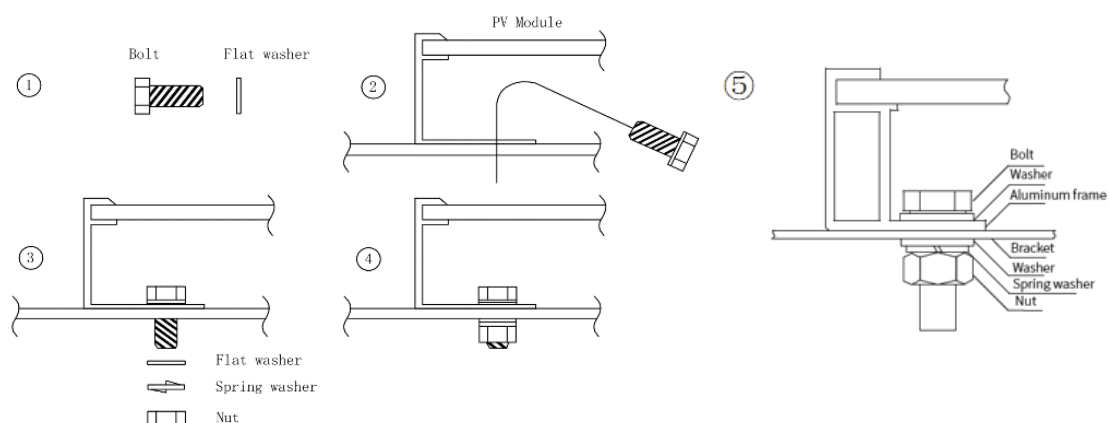

figure 4
- The method and the specifications of the fixing parts are shown in the figure 4 below: